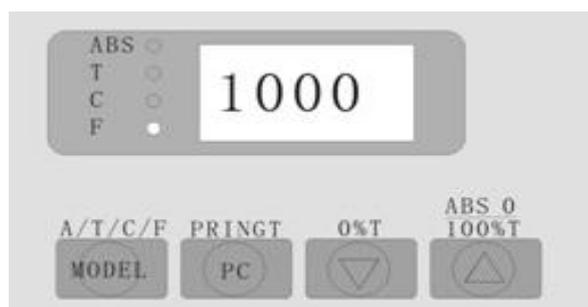

Fig.1-15
- b. If the current F value is 1000, press the **Δ/0Abs/100%T** key, until it goes up to 1500. (Fig.1-15)